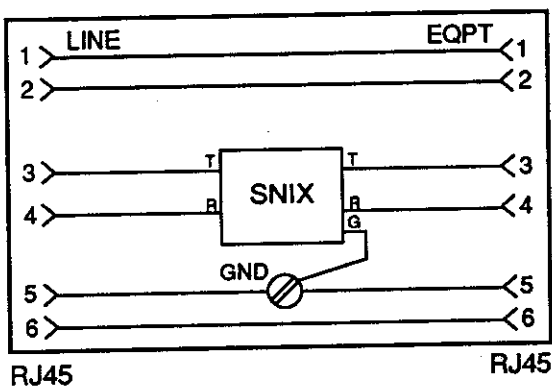

Figure 9: Regular Jack Model SNIX
5.02 The regular SNIX is also offered with two modular RJ45 8 position telephone line jacks. One jack is designated as "line" and the other as "eqpt." The "eqpt" side contains the drainage path. Six conductors are connected through from "line" to "eqpt." However, the T and R of the SNIX are wired in series with the number 3 and 4 pins of the jacks. The ground path of the SNIX is connected to the number 5 pin of the jacks and also to a "G" screw terminal. An external low impedance ground connection must be made to this terminal or the number 5 pin for the SNIX to perform properly. See Figure 9.